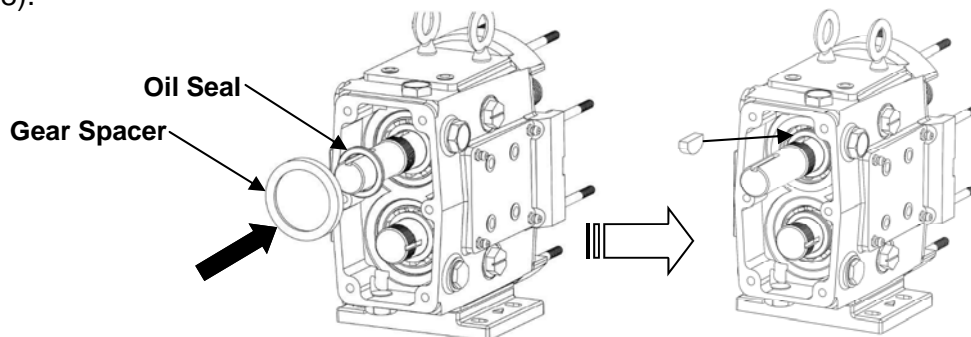

Figure 58: Rear Oil Seal and Gear Key Installation
7) Apply a light film of lubricant to the inside and outside diameters of the rear oil seals, and install them into the back of the gear case with the spring side facing outward toward the gear. Install the gear spacers onto the shaft and place the gear keys into the shaft key slots (Figure 58).